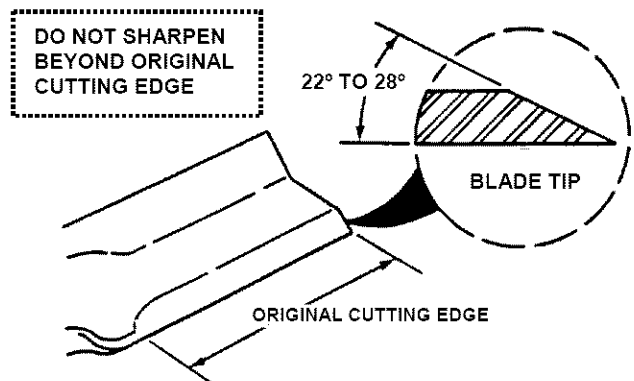

FIGURE 4.17
7. If blade is in good condition, sharpen at 22 to 28 degrees. **DO NOT** sharpen beyond existing cutting edge. See Figure 4.17.
1. Remove blade(s). See Figure 4.17. Replace blade(s) if it shows signs of excessive wear or damage. See chart below for replacement